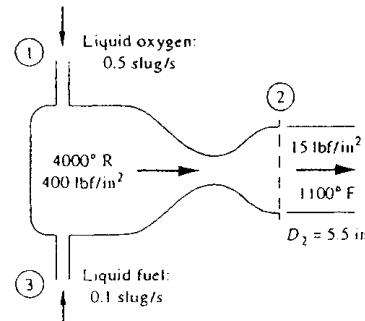

Fig. P3.34
**3.34** A rocket motor is operating steadily, as shown in Fig. P3.34. The products of combustion flowing out the exhaust nozzle approximate a perfect gas with a molecular weight of 28. For the given conditions calculate  $V_2$  in ft/s.
**3.35** In contrast to the liquid rocket in Fig. P3.34, the solid-propellant rocket in Fig. P3.35 is self-contained and has no entrance ducts. Using a control-volume analysis for the conditions shown in Fig. P3.35, compute the rate of mass loss of the propellant, assuming that the exit gas has a molecular weight of 28.